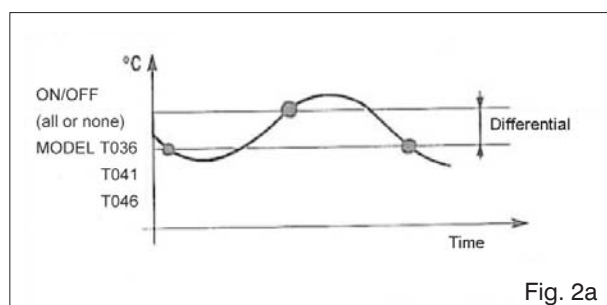
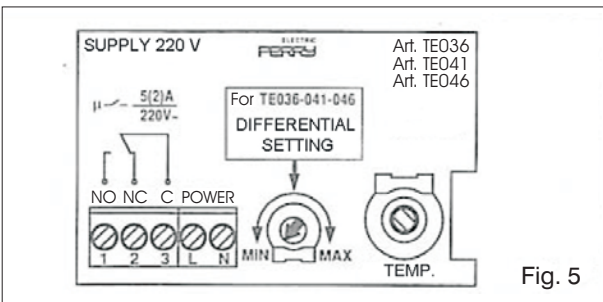

Fig. 2a
Fig. 5
The TE036, TE041 and TE046 electronic thermostats are differentially regulated, as shown in Fig. 2a; in the case of heating systems, the thermostat maintains the load enabled (contact NA closed) until the maximum threshold of the set temperature is reached, when the temperature falls to the minimum threshold the thermostat disables and then re-enables the load. The difference between the thresholds can be adjusted (from 0.2 to 2.5 °C) by setting the trimmer, as shown in Fig. 5.
- In the models with the ON/OFF differential, set the differential as shown in **Fig. 5**.